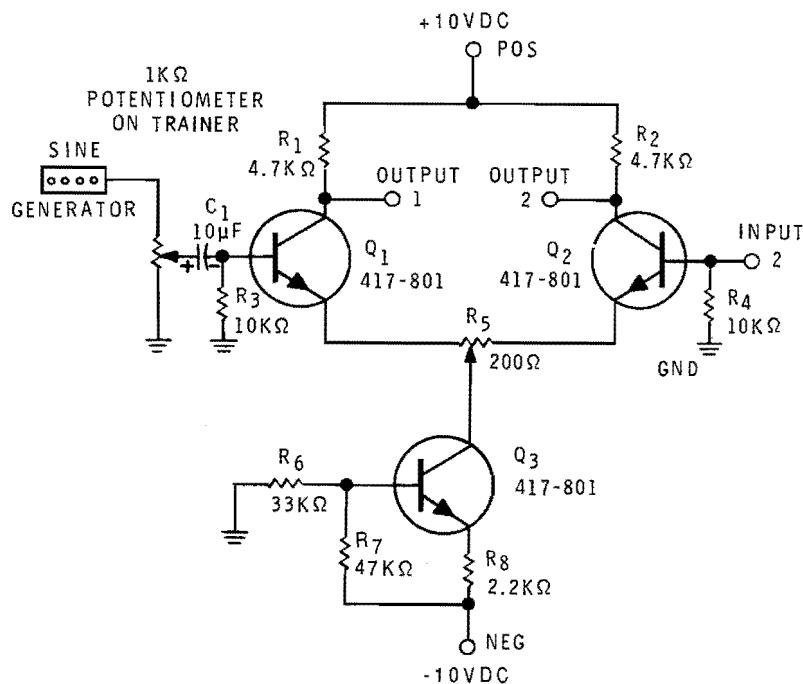

Figure 3-18
9. Connect the sinewave generator to the circuit via the potentiometer and 10 microfarad capacitor as shown in Figure 3-18. Notice that an input signal is applied to the base of  $Q_1$  from the generator of the Trainer. The 1 kilohm potentiometer is used as an amplitude adjust.